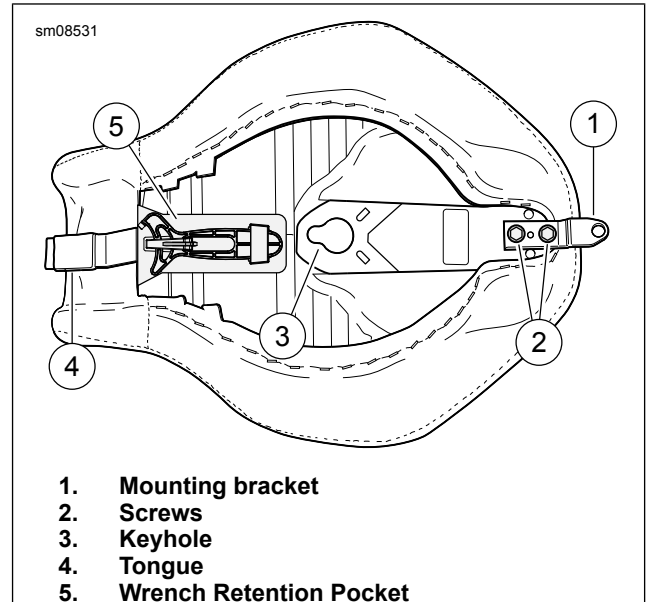

Figure 1. Bracket, Screws, Keyhole and Tongue
1. See Figure 1. Remove the two screws (2) securing the rear seat bracket (1). Remove the bracket. Discard bracket. For 52400125: Save screws for installation on pillion. For 52400127: Discard screws.